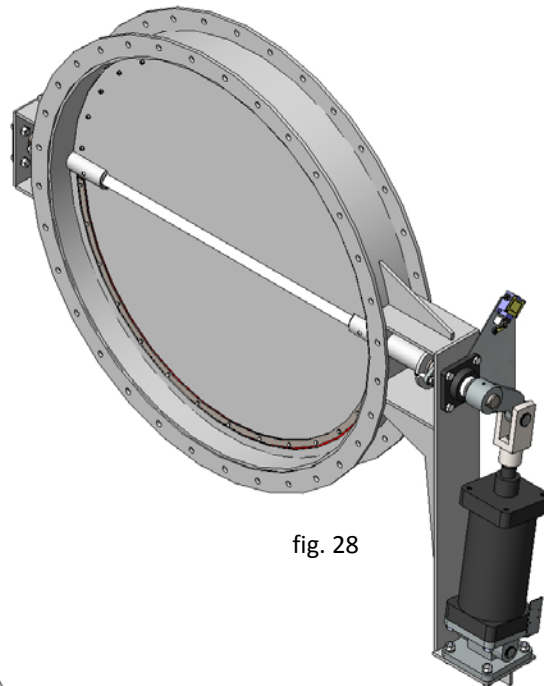

fig. 28
- Linear pneumatic cylinder (fig.28) *